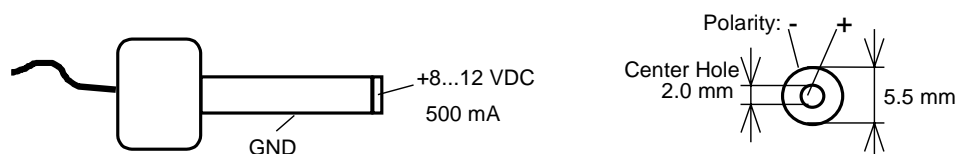

Figure 4: Power Connector
- Using the included power adapter, connect the power socket on the board (P3) to a power supply (*refer to Figure 4 for the correct polarity*).